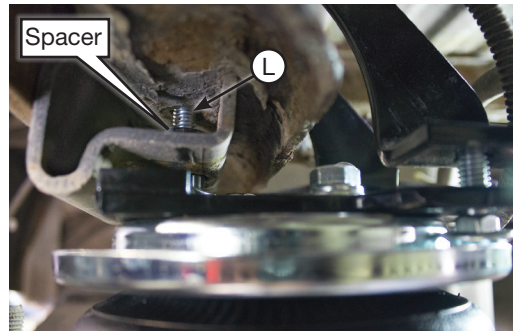

fig. 15
3. Set the driver's (left) side assembly onto the jounce bumper strike plate (Fig. 17). Raise the axle up just enough to insert the long carriage bolt (L) and correct spacer (BB or CC) that is installed in the upper bracket through the existing jounce bumper hole in the bottom of the frame (Fig. 15). At the same time, line up the upper brace previously installed onto the remaining two carriage bolts (O) in the upper bracket. Do this just enough for the carriage bolt to hold the assembly into position on the jounce bumper strike plate.